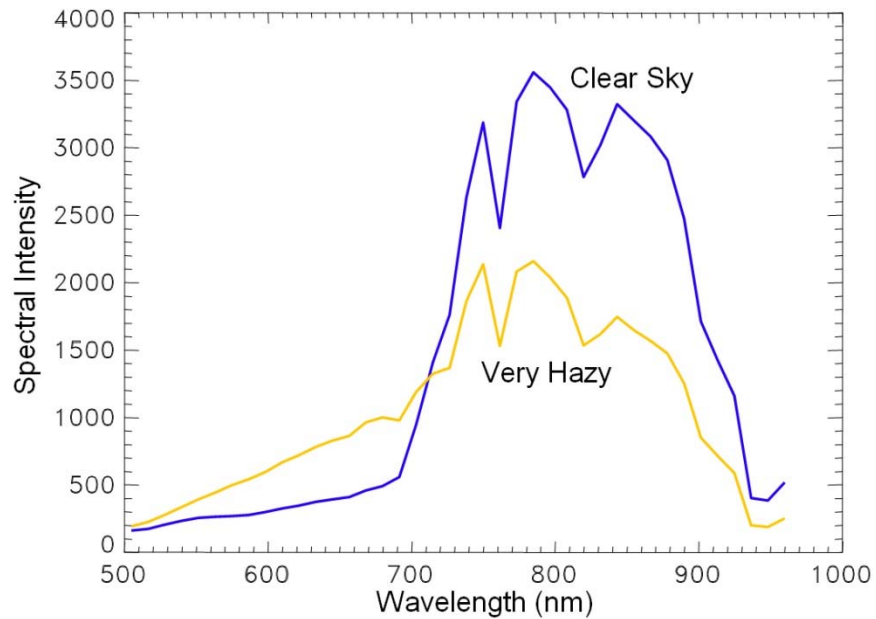
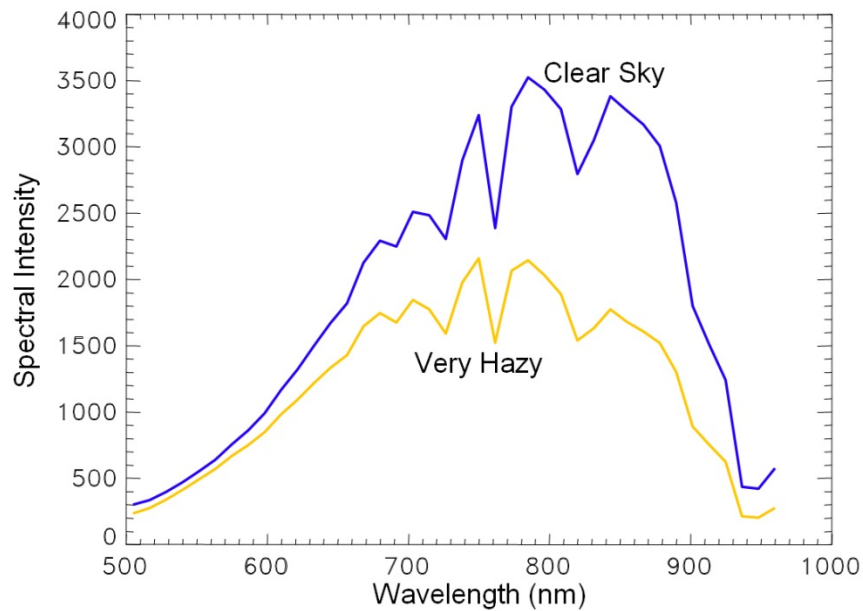

Figure 26. Spectral Intensities for Different Sky Conditions
Figure 27. Spectral Intensities for Different Sky Conditions
- *Relative humidity and haze vary regionally in the United States.* Arid regions, such as the desert southwest, experience less absorption of light by water vapor in the atmosphere than do humid regions in the eastern and southern parts of the US. Because higher humidity and haze cause more absorption and more scattering of light, less of the reflected light from a target reaches the sensor. Figure 26 and Figure 27 illustrate the downward shift in spectral intensities from summer mid-day clear sky conditions to summer mid-day haze conditions. Figure 26 shows the shift for a Cessna cowling surrounded by healthy vegetation. Figure 27 shows the same data with the cowling surrounded by dry grass.